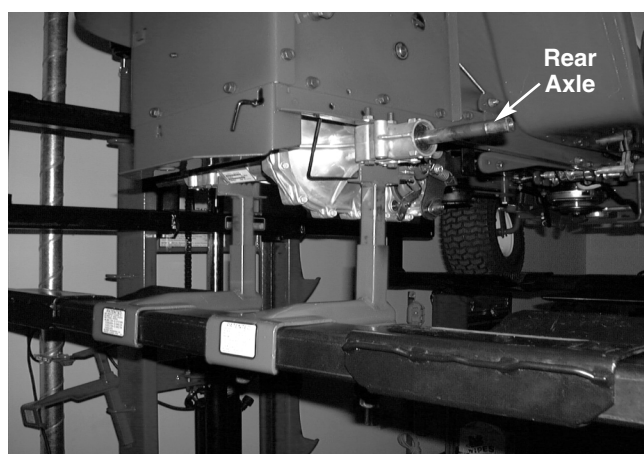

FIGURE 1.
3. Remove both hex bolts and belleville washers securing the rear wheel assemblies to the rear axles using a 1/2" socket and extension. See figure 1.